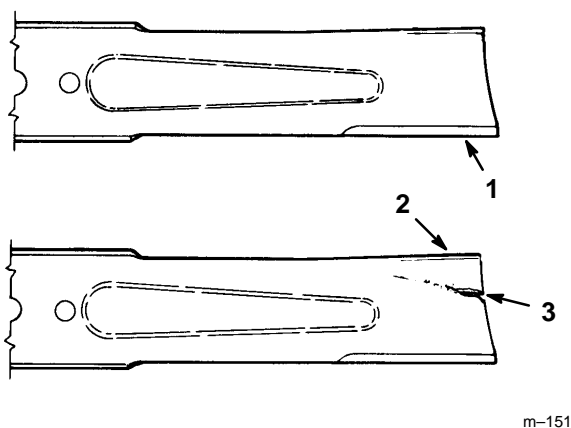

Figure 19
1. Inspect the cutting edges (Fig 19). If the edges are not sharp or have nicks, remove and sharpen the blades. Refer to Sharpening the Blades on page 15.
2. Inspect the blades, especially the curved area (Fig. 19). If you notice any damage, wear, or a slot forming in this area (item 3 in Fig. 19), immediately install a new blade.